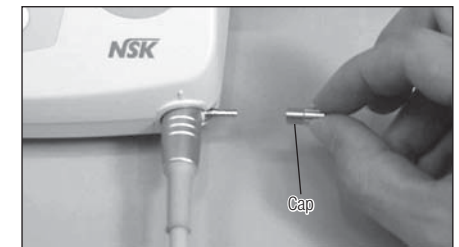

Fig. 9
- 2) Loosen and remove the Cap. (Fig. 9)